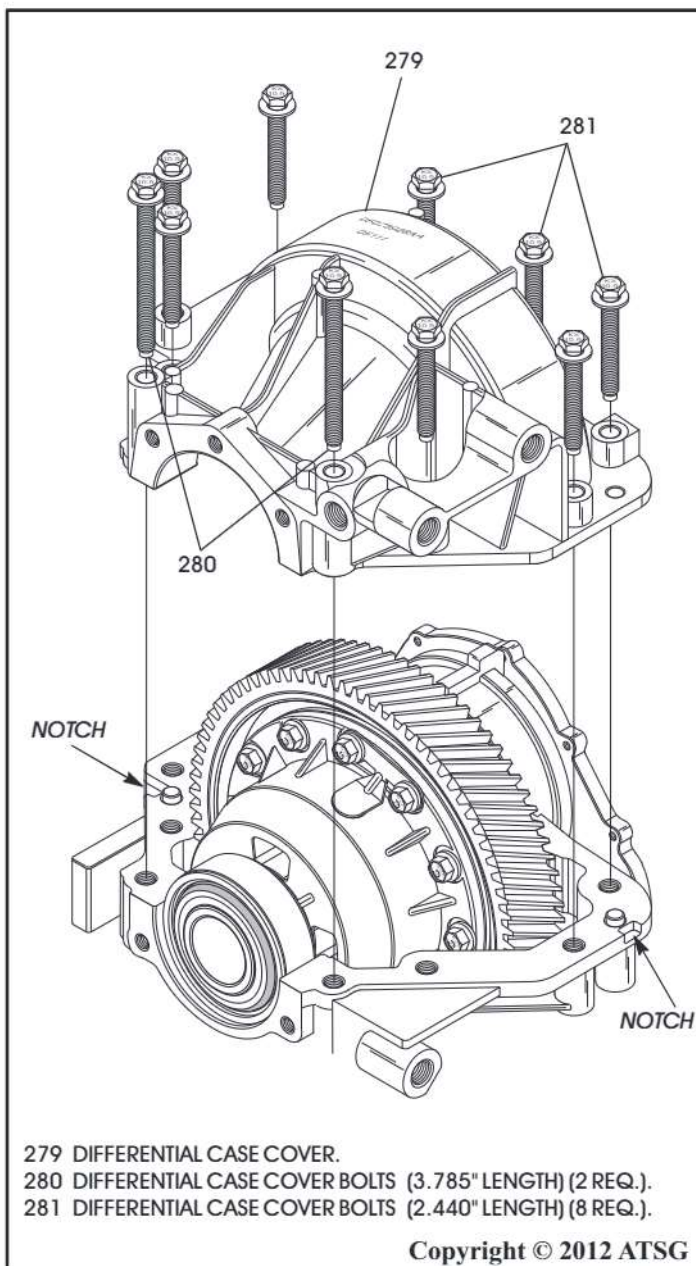

Figure 89
90. Remove the 10 differential case cover retaining bolts, as shown in Figure 89.
91. Remove the differential case cover, as shown in Figure 89.
Note: There are two "Notches" provided in the case for two large screwdrivers that will allow you to dis-lodge the differential case cover from the case, as shown in Figure 89.